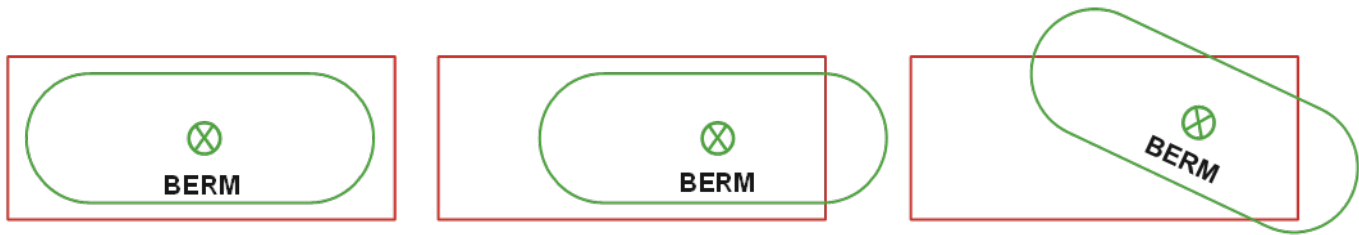

Figure 3: Berm Positioning. Only the green berm volume inside the red box will count towards the berm volume measurement.
A volumetric scan before and after the run will be performed. Only the berm volume within the target berm location will be counted (see Figure 3). The team will earn construction points for each cubic cm of berm constructed above grade per minute per each kg of the robot's mass. Only the portions of the constructed berm within the target area for berm placement will be counted. The target area has perimeter dimensions of 1.5 M x 0.9 M. There is no restriction on the shape, height, or number of berms constructed.
3. **Construction Berm Productivity – Normalized for Energy (BP Energy)** - A volumetric scan before and after the run will be performed. Only the berm volume within the target berm location will be counted (see Figure 3). The team will earn construction points for each cubic cm of berm constructed above grade per minute per each w*hr of energy consumed. The electrical energy consumed must be displayed by an (commercial off the shelf or "COTS") electronic data logger and verified by a judge.